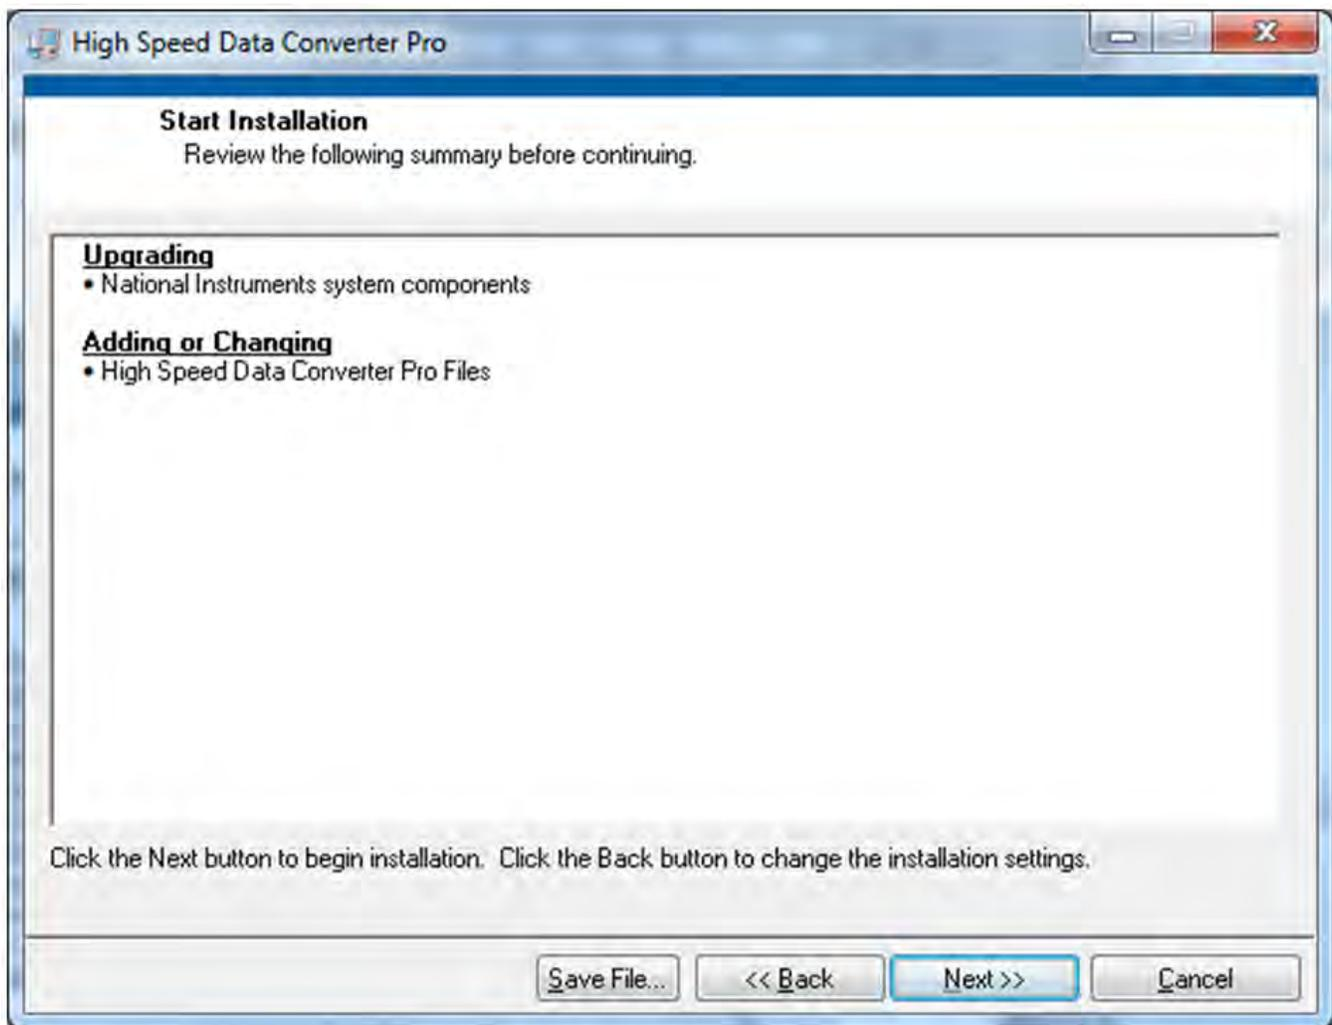

Figure 34. HSDCPro Install (Start Installation)
- Press the *Next* button as shown in Figure 34.